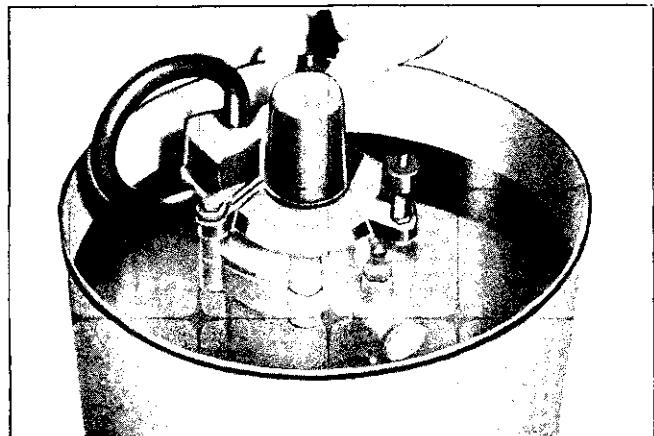

Fig. 4-28 Checking Compressor, Reservoir and Regulator for Leaks
3. Route an 8" piece of rubber hose between vacuum and vent ports (Fig. 4-28).